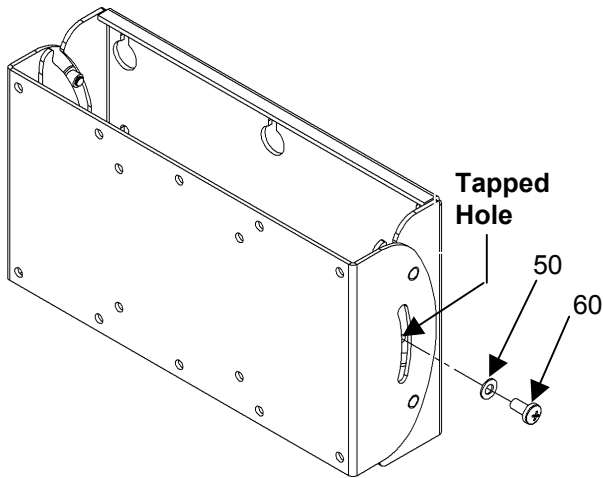

Figure 7. Install the M5 Screw
- A. Assemble a washer (50) over each M5 screw (60). Install the two M5 (60) screw assemblies into the tapped holes located on the side of the wall bracket (20). See Figure 7.
- B. Set the display into the desired position. Tighten the M5 screw (60) until friction holds the display stationary.